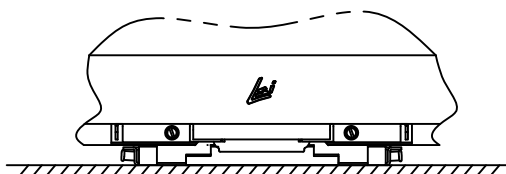

FIGURE 9
10. TIGHTEN 2 CLAMP SCREWS EVENLY. SEE FIGURE 9.